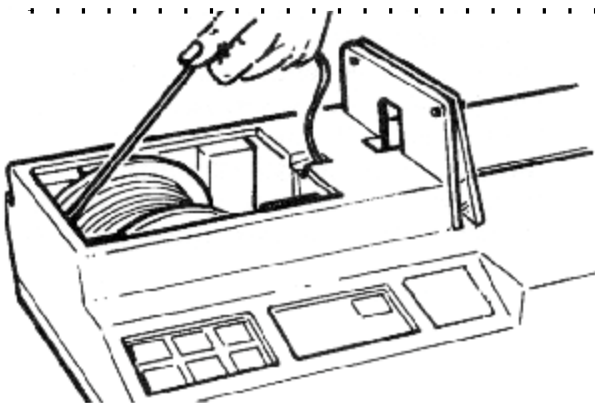

Figure 8
3. Make sure there is slack strap in the dispensing area, approximately 6-12 inches (152-305mm). See Figure 8. Replace the plastic cover over the strap dispensing section, making sure the strap guides on the cover are seated between the dispenser